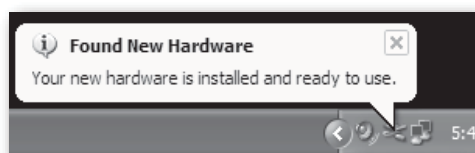

Figure 2
2. When it is finished installing the drivers, it will say "Your new hardware is installed and ready to use" (figure 2).